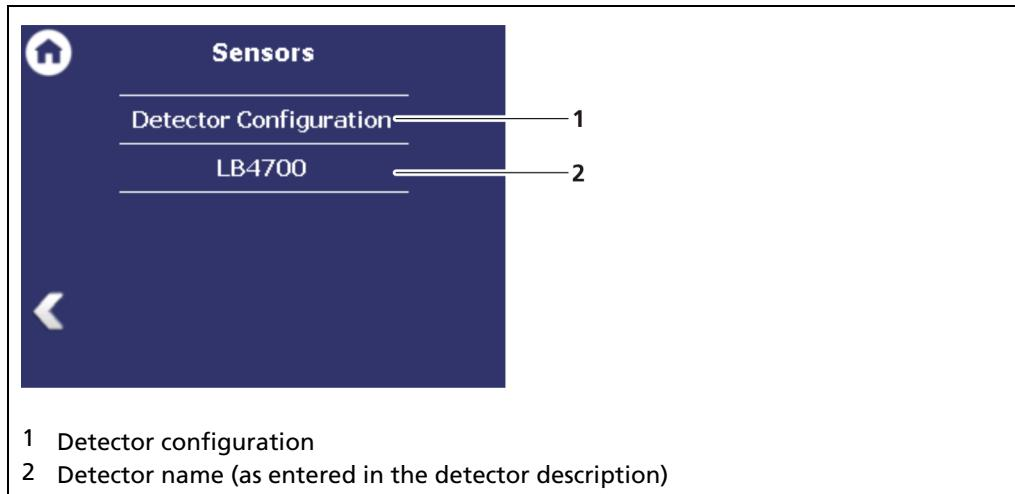

Fig. 52 Menu "Sensors"
- Detector configuration (Fig. 52, item 1)
- Configuration of the respective detector (Fig. 52, item 2)
In the sub-menu "Detector configuration" the detectors for the measuring system are added and configured. Only configured detectors are listed and shown in the menu (Fig. 52). When a detector is selected (Fig. 53, item 6), the detector type (Fig. 53, item 4) and measuring task (Fig. 53, item 5) are shown.
Detector description. Also used for error messages, logs and in the menu structure (Fig. 52).